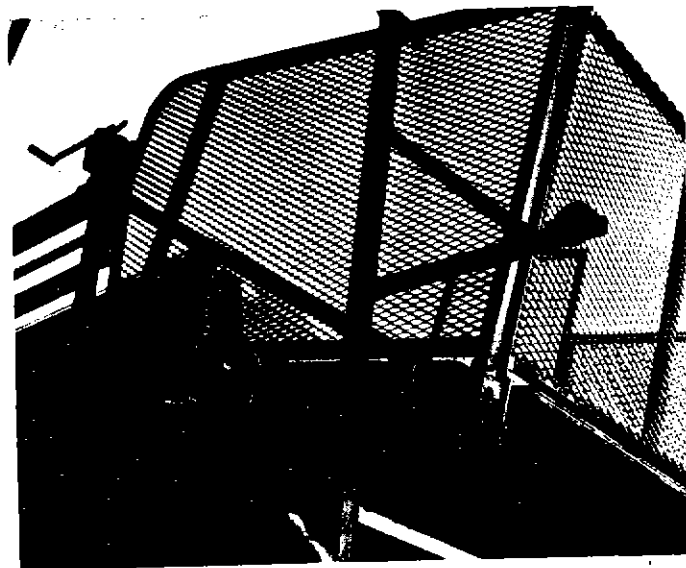

Fig. 22
(2) Working from the platform, bolt the side support brackets to the top rails of the left and right side fence sections.
(3) Note: The side support bracket with the pulley must be installed on the winch side. (Fig. 22)